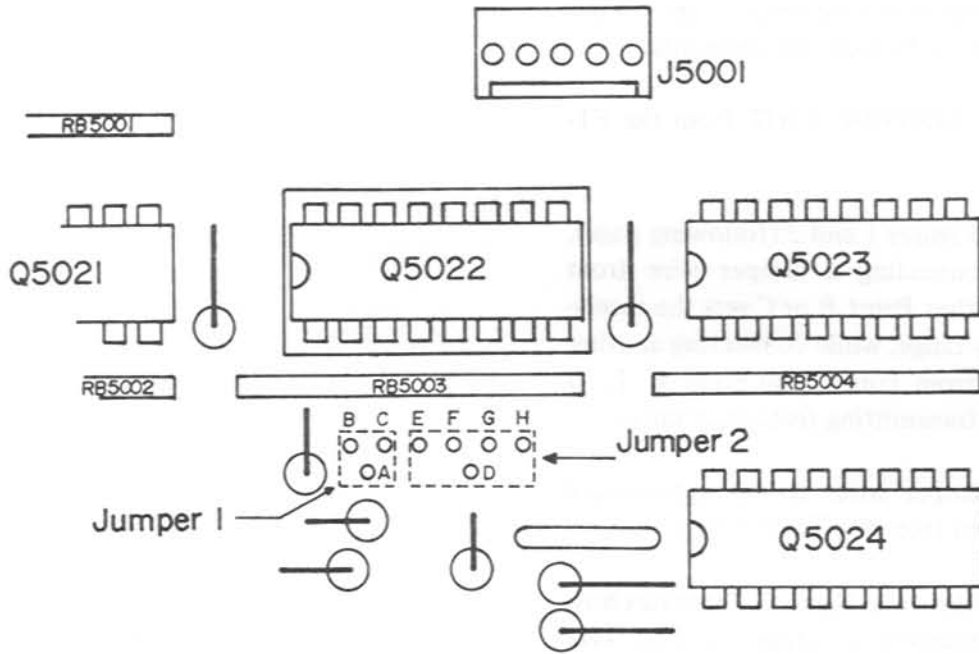

Figure 1
2. Referring to Figures 1 and 2 (following page), note that connecting a jumper wire from Point A to either Point B or C sets the receiving frequency range; while connecting another jumper wire from Point D to Point E, F, G or H sets the transmitting frequency range.